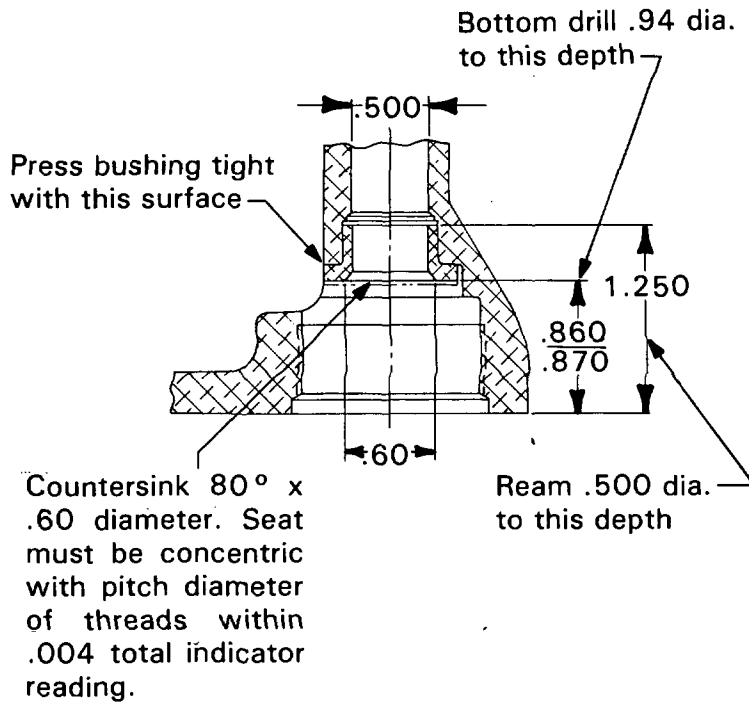

Figure 5. Section Through Crankcase Showing Bushing Installed
Figure 4 of this instruction is a cross section view of the oil pressure relief seat area showing the area, and dimensions to be reworked for bushing installation, and a cross section view of the bushing with fabricating dimensions. Figure 5 is a cross section view of the oil pressure relief seat area with the bushing installed showing the dimensions for finishing the bushing. The P/N LW-18166 and the P/N LW-18166-P04 bushing can be purchased from Avco Lycoming or made from AMS 4118 aluminum.
5. Clean the bushing and recess per Loctite instructions. Apply Loctite 270 or equivalent material. Press the bushing into the recess tight against the flat surface as shown in Figure 5.
6. Counterbore the bushing head to a depth of .860/.870 inch (see Figure 5).
7. Drill the ID of the bushing .500 inch diameter to a depth of 1.28 inches (see Figure 5).
8. Countersink the oil relief ball seat 80° x .60 inch diameter. Use P/N ST-439 countersink and P/N ST-245 bushing (see Figure 5).